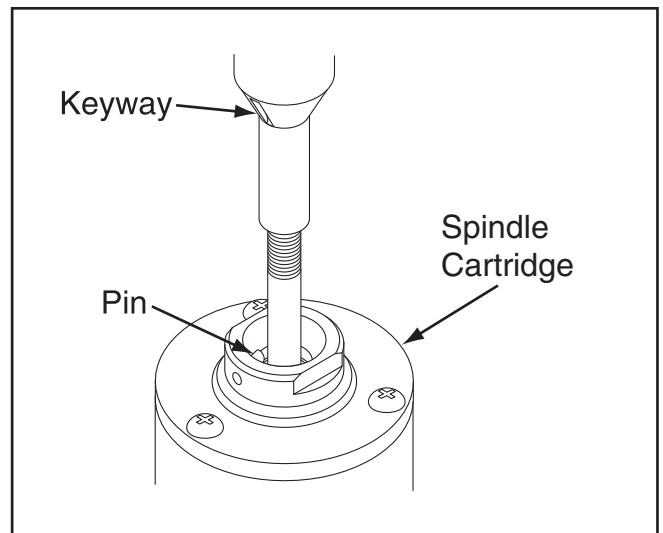

Figure 4. Inserting the spindle into place.
4. Place the spindle/drawbar into the spindle cartridge at the top of the table. Line up the keyway on the spindle with the locating pin at the top of the spindle cartridge. You will feel the spindle seat itself. **See Figure 4.**